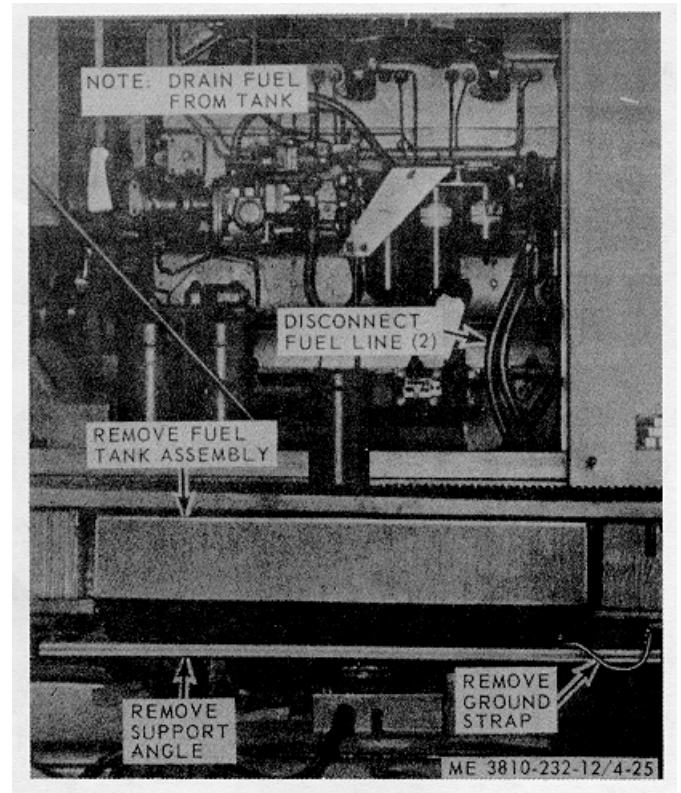

Figure 4-25. Cradle engine fuel tank, removal and installation.
- (1) Remove crane engine fuel tank as illustrated in figure 4-25.
(2) Install fuel tank as illustrated in figure 4-25.